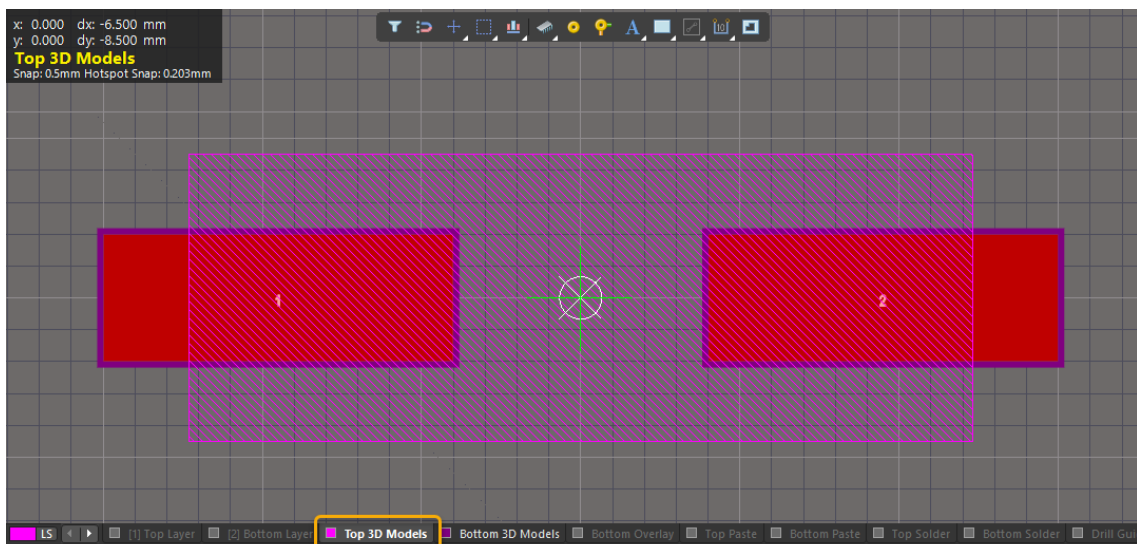

Figure 37. 3D Body Dialog in 2D Mode
55. With the STEP model attached to your mouse, place the 3D Body in the center of your Footprint, as seen in Figure 37.